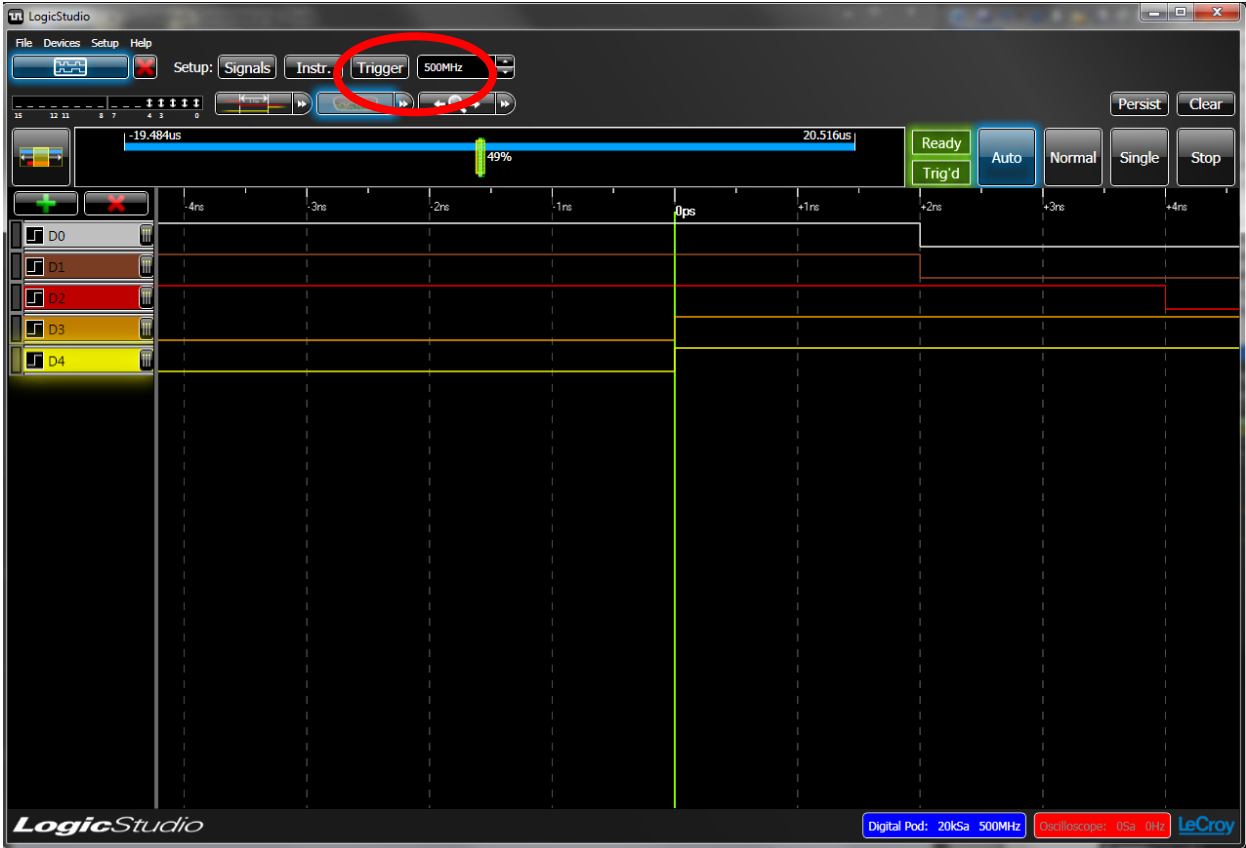

Figure 4 - Logic Studio triggered on positive going edge of D4
13. Press the Setup:Trigger button at the top of the LogicStudio software display. The trigger setup pop up will appear. Set up an edge trigger on the positive going edge of signal D4. Press OK and the signal display of Logic Studio will now appear stable as shown in Figure 4. On the default timescale it may appear that the trigger occurs on both positive and negative edges. Hold down the right mouse button and scroll the mouse across the display to expand the timebase. At 1 us/div it will be clear that LogicStudio is only triggering on the rising edge of D4.
14. Investigate the effect of changing the Setup:sampling frequency control (Circled in Figure 4).